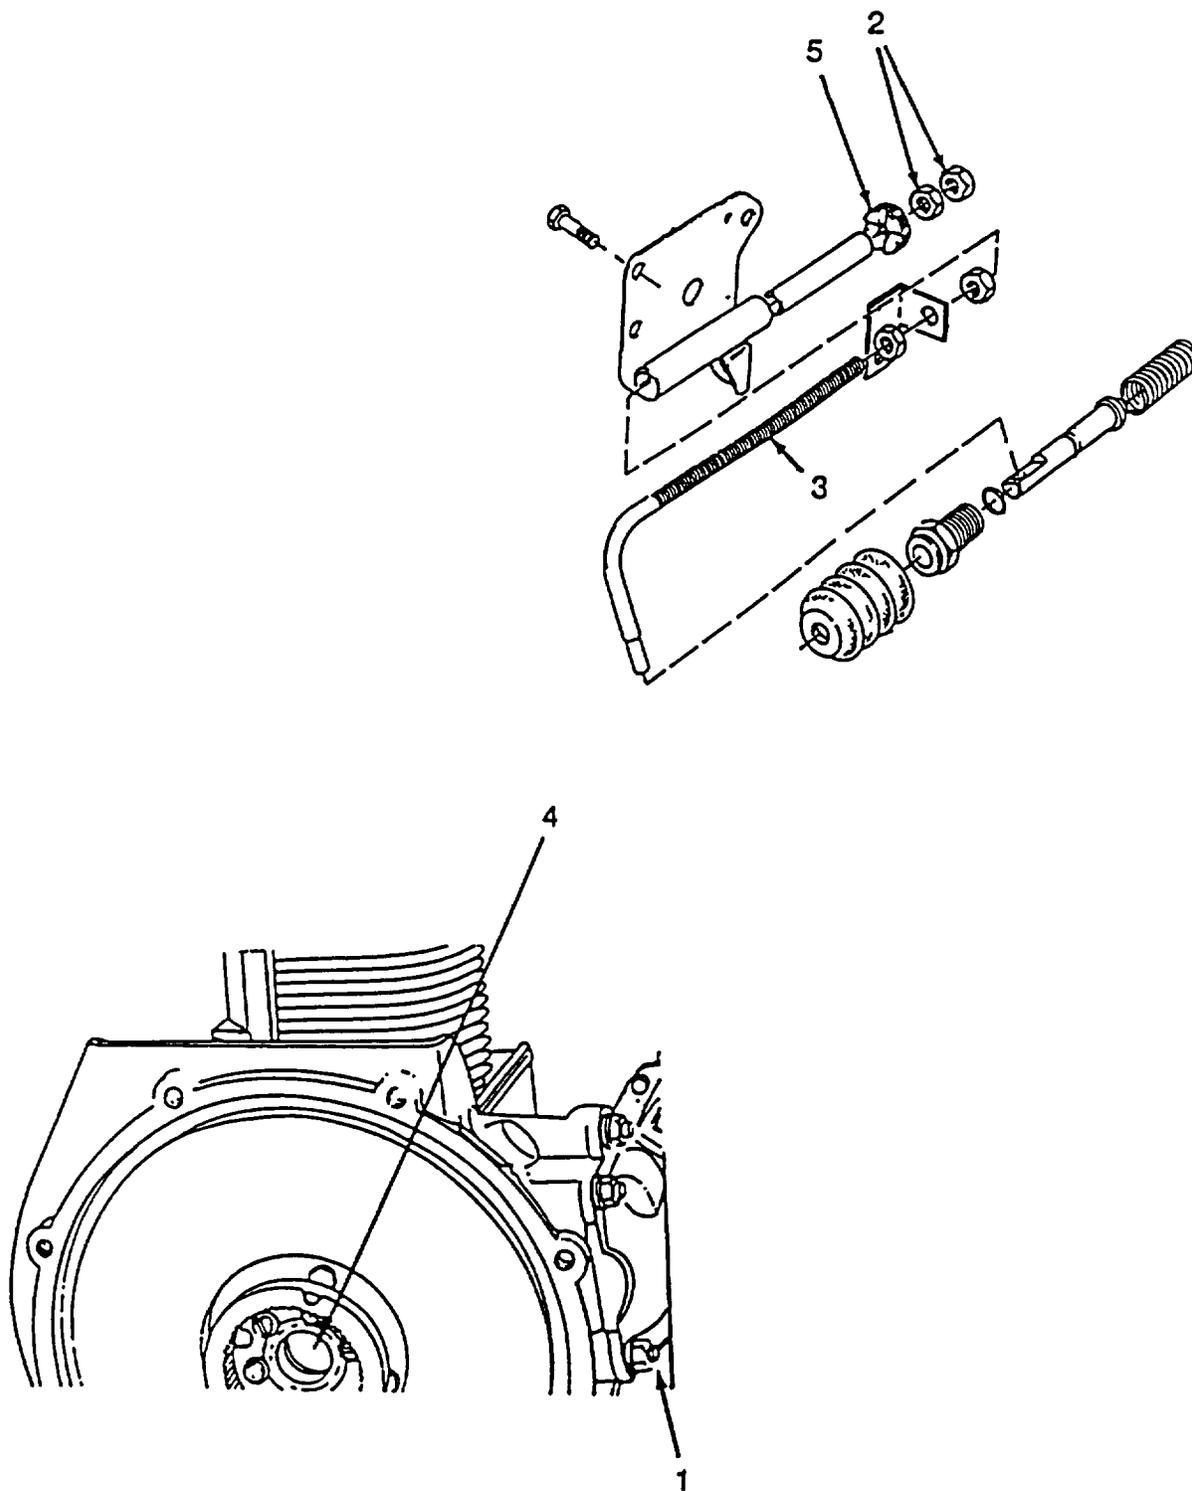

Figure 6-10. Engine Running-In
a. Run. (Refer to Figure 6-10).
(1) Install engine (1) in locally fabricated run-in fixture.
(2) Run engine (1) for 2 minutes and check for oil and fuel leaks.
(3) Stop engine (1) and check engine oil level (LO 9-2350-264-12).
(4) Loosen jamnuts (2) on control rod (3).
(5) Start engine (1) and place tachometer to center of flywheel (4) long enough to obtain revolutions-per-minute (RPM) reading. Record reading.